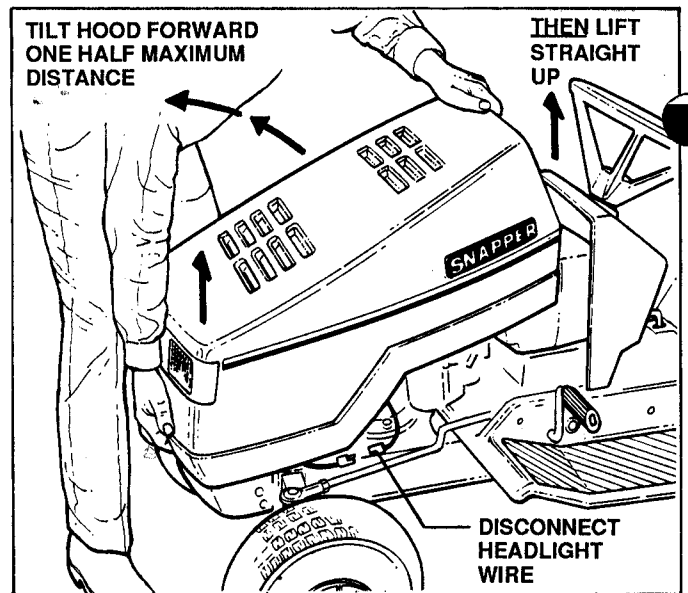

FIGURE 29
- Tilt hood one half maximum distance, then lift straight up to remove. There will be some resistance from the retaining pins, requiring a slight "tug". See Figure 29.